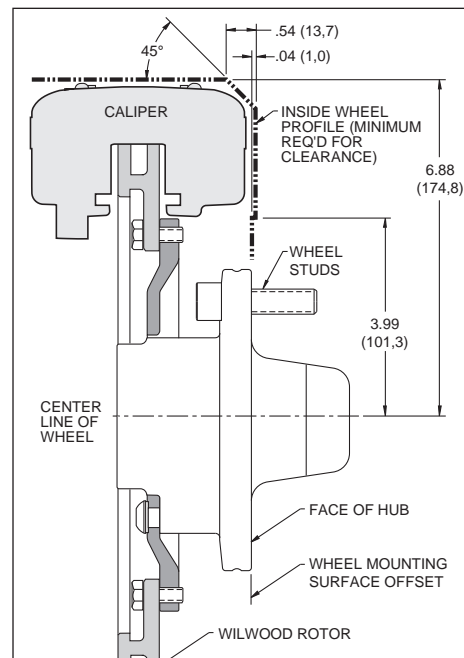

Figure 3. Wheel Clearance Diagram
- Review the wheel clearance diagram (figure 3, page 5) to verify that there is adequate clearance with the wheels you will be using with the installation. This kit will result in the wheels being moved out approximately .75" beyond the stock location.